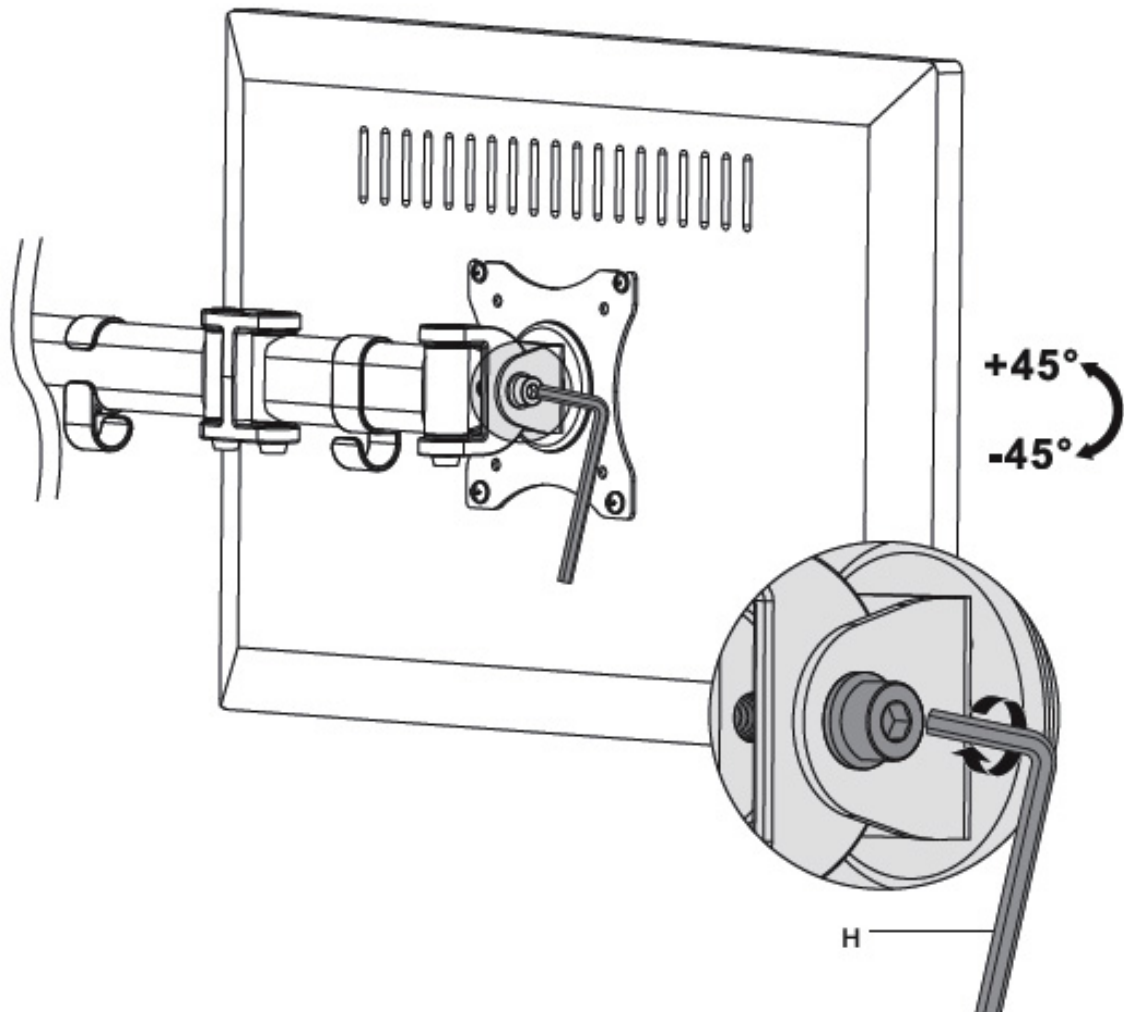

Figure 4
1. Use **Allen Key (H)** to loosen the **Tightening Bolt**, then tighten the bolt to fix the tilt angle as shown in **Figure 4**. Note: The head can be adjusted vertically.